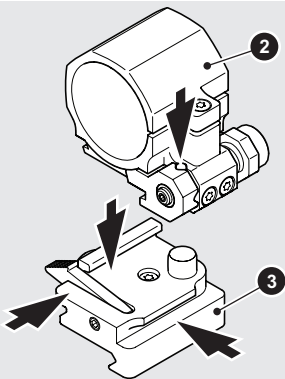

Fig. 6 Apply a small amount of weapon oil to surfaces
Surfaces shown in Fig. 6 are in contact with each other during operation of the FlipMount. Remove the FlipMount top (2) from the base (3) (see 2.2) and put a small amount of weapon oil on these surfaces when performing preventive maintenance on the weapon.